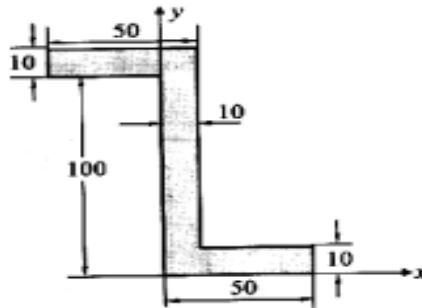

Figure.6
7. Find the MI about the centroidal axis and about the xy axis for figure.6 shown. All dimensions are in mm. [10]